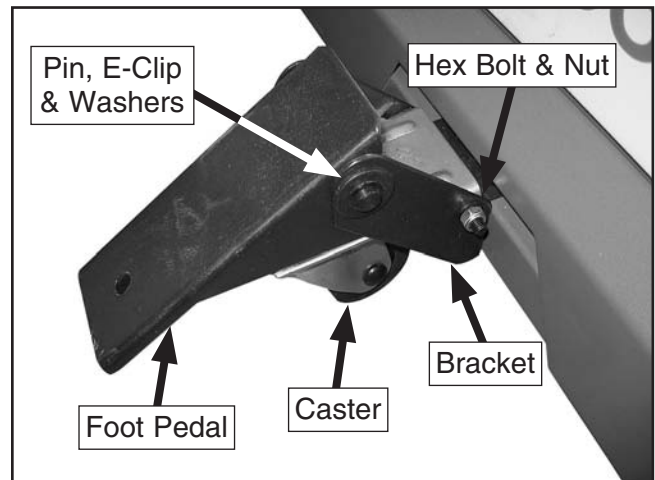

Figure 13. Foot pedal and caster installed.
- Lock the caster and pedal in place with the E-clip and washers, as shown in **Figure 13**.